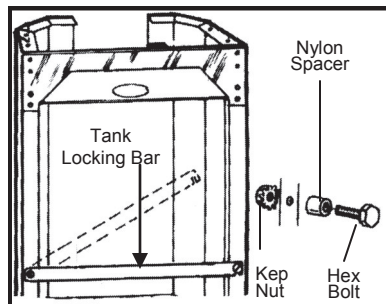

Fig. 1
A. In box #2, find and attach the LP Tank Locking Bar across the back of the column. This spreads and holds the correct spacing at the back of the column regardless of the type of gas that will be used. Use the (2) 3/4" Hex Bolts, Nylon Lock Bar Spacers and Kep Nuts to fasten the lock bar in place. (Fig. 1)
A. In box #2, find and attach the LP Tank Locking Bar across the back of the column. This spreads and holds the correct spacing at the back of the column regardless of the type of gas that will be used. (**Fig. 1 Page 8**)